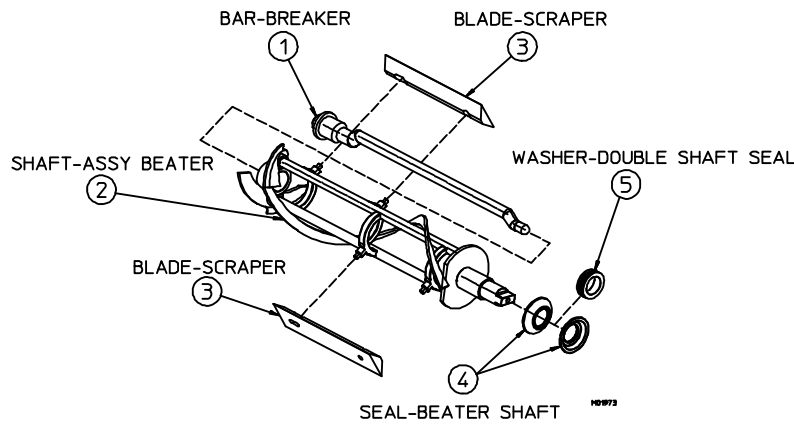

Figure 8-2 Assemble beater shaft assembly
1. To assemble the shaft seal, install the cup seals on the plastic washer. Apply a moderate amount of approved sanitary lubricant (such as Lubri-Film Plus) to the washer. Do not allow any lubricant to come in contact with the bell-shaped rubber portions of the seal (figure 8-2). Wipe any excess lubricant from the beater shaft.
4. Slide the breaker bar into the center of the beater shaft so the bar fits into the hole in the rear beater shaft disc. Place the scraper blades on the beater shaft, as shown in figure 8-2,